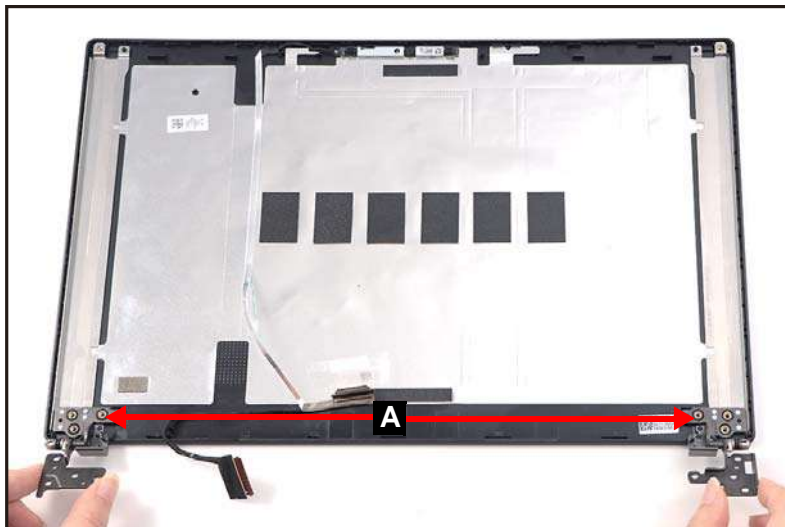

Figure 3-69. LCD Hinges Removal
2. Remove the LCD hinges (A) from the LCD cover (Figure 3-69).